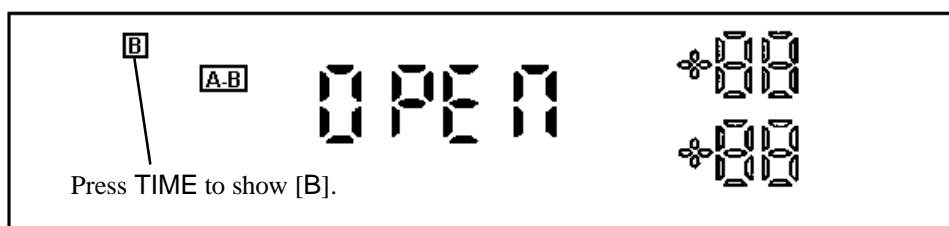

Fig. 1
3. Enter the test mode by holding ◀ (SEARCH) + ▶ (SEARCH) + A. (Fig. 1)
4. Press TIME to show [B]. (Fig. 1)